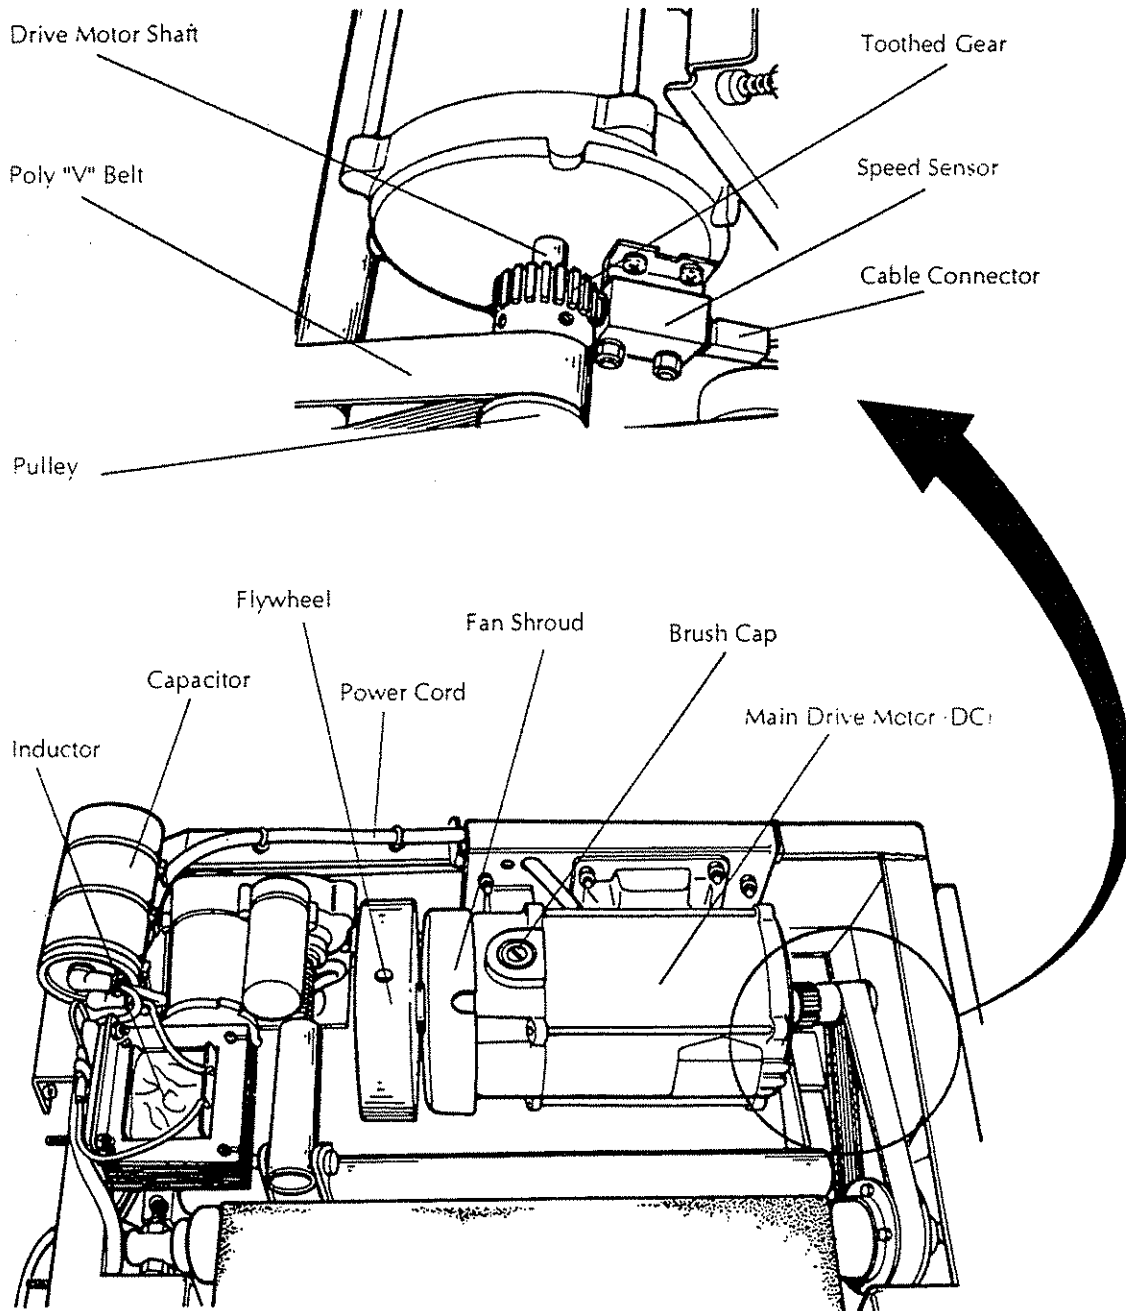

Figure 2-7: Main Drive Motor (DC) & Speed Sensor Assembly
The main drive motor is located beneath the front hood cover and is used to drive (turn) the running belt at a constant rate as determined by the user or while under program control. See Figure 2-7.
The speed sensor is located on the main drive motor (DC) and is used to detect motor/belt speed. The sensor consists of two main components; an electromagnetic sensor and a toothed gear. See Figure 2-7.